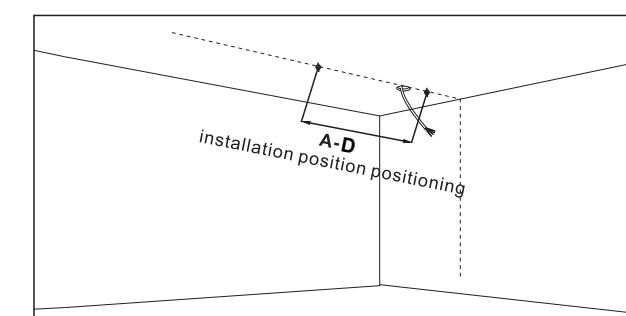

FIG 2
2. Mark hole position and drill holes with tools in the track installation area. Make sure to drill outlet holes for power cables (Ref Fig 2).